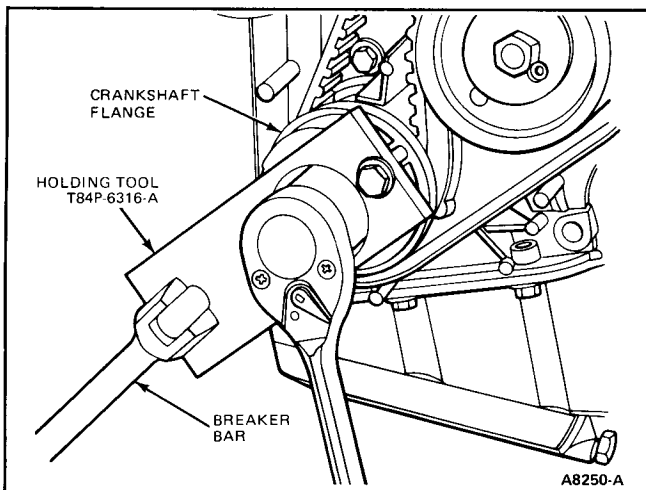

FIG. 31 Crankshaft Flange Removal
2. Install Holding Tool T84P-6316-A or equivalent, (Fig. 31) with two bolts supplied with tool.
9. Install Holding Tool T84P-6316-A or equivalent (Fig. 31).